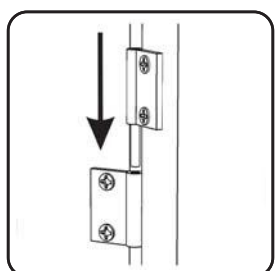

Figure 8
Attach Doors (J) and (K) by sliding the door lift hinges into the side panels lift hinges. (See Figure 8)